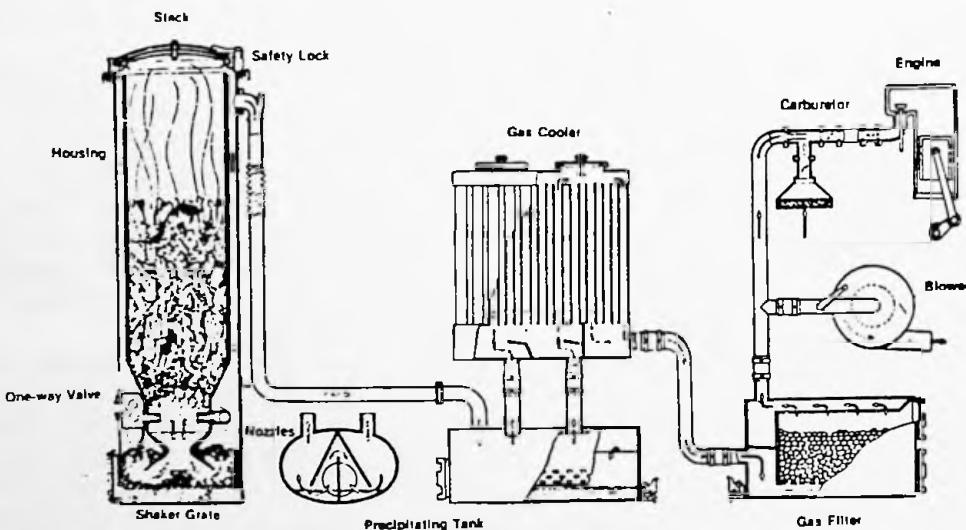

Fig 4.14 Gasifier for running a small engine
- i) gasifying plants (or "producer gas units") (see Figure 4.14) which can fuel conventional spark ignition internal combustion engines similar to a petrol engine or which can supplement the fuel supply for a diesel engine. Unfortunately the gas quality from present equipment is usually so poor that most modern engines suffer greatly reduced performance and rapid deterioration due to carry over of tar and acid pollutants in the gas unless very expensive gas cleaning equipment is introduced.